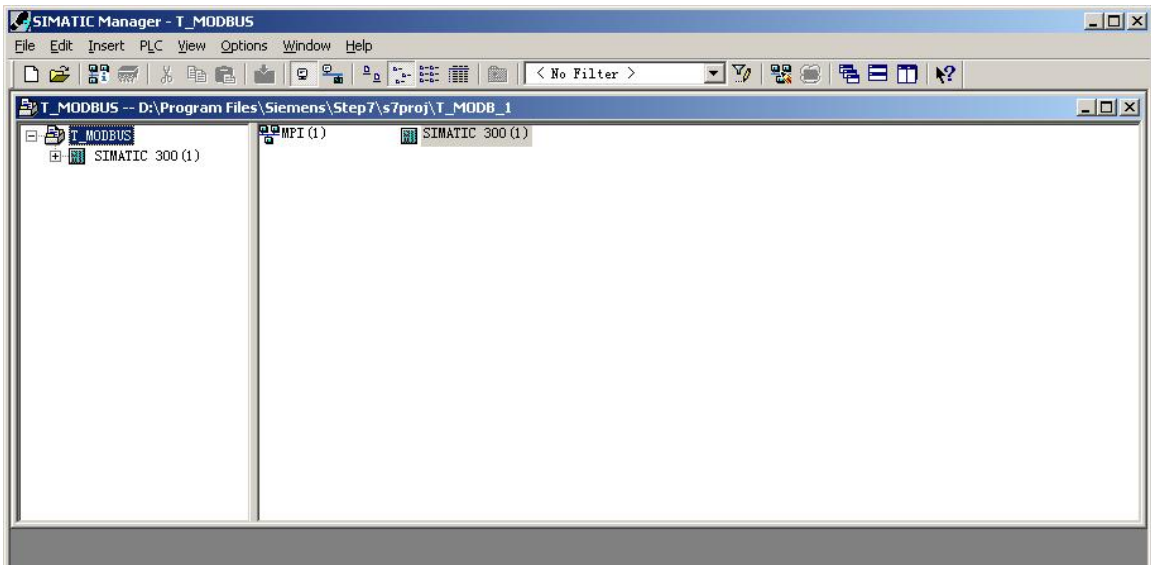

Figure 3
3. Insert->Station->SIMATIC 300 Station. Figure3: